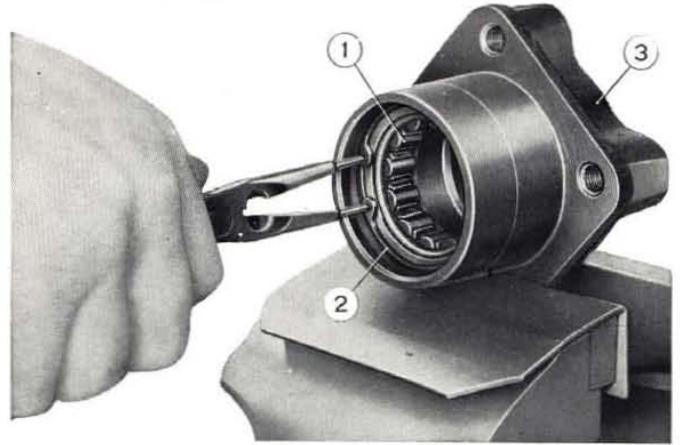

**Fig. 250 - Adjusting rear control arm.**
- determine the number of shims required to take up clearance at (2, fig. 250), between bushing and shoulders.